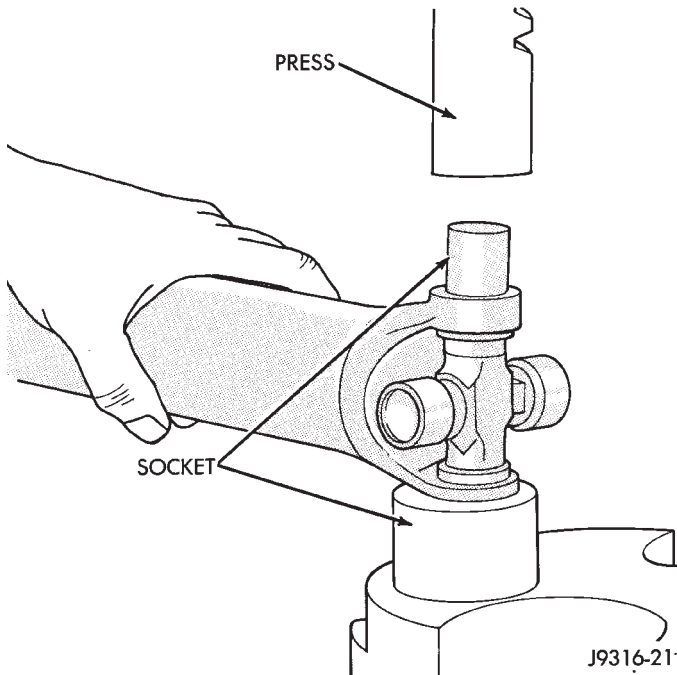

Fig. 15 Press Out Bearing
(5) Position the yoke with the grease fitting, if equipped, pointing up.
(6) Place a socket with an outside diameter smaller than the upper bearing cap on the upper bearing cap and press the cap through the yoke to release the lower bearing cap (Fig. 15).